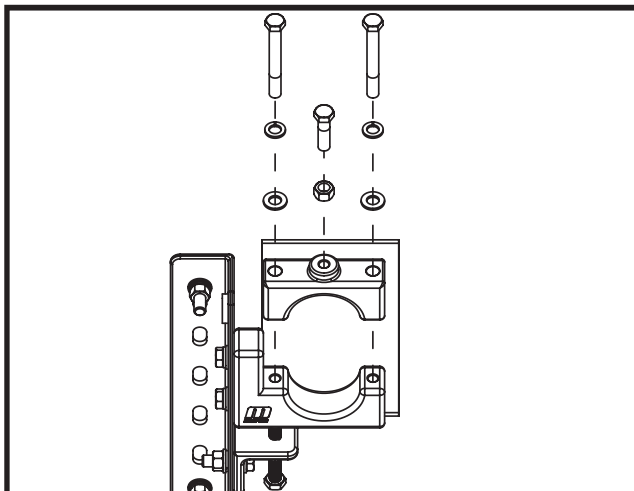

Figure 7. Martin® P2 Secondary Belt Cleaner HD Operator Bolt Tensioner Clamp Block Hardware
3. Remove the clamp block and clamp block hardware, placing in secure location for later re-installation. (Refer to Figure 7.)